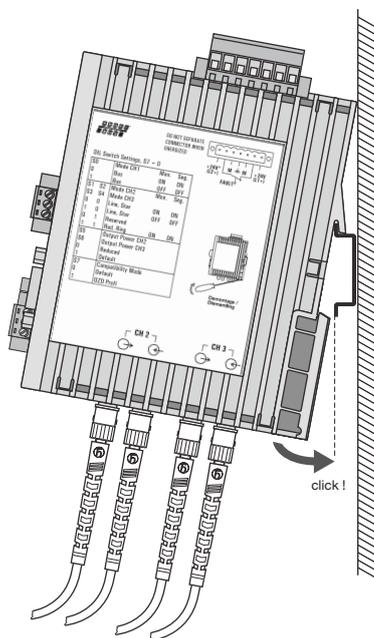

Fig. 8: Mounting a repeater on a DIN rail
- ▶ Mount the repeater on the DIN rail. To do this, hang the top latch of the repeater into the DIN rail and press the underside onto the rail - as shown in Fig. 8 - until the latch clicks in.